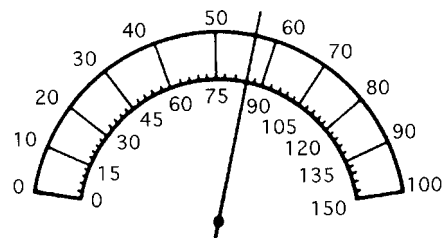

Figure 10.33
- 5 Fig. 10.33 shows a scale of a multi-range ammeter. What is the current indicated when switched to a 25 A scale?